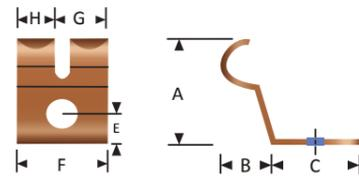

Figure 99 : Example of finger under 90 degrees
- 99** For special constructions the 2500 series show fingers mounted under an 90 degree angle. (Fig. 99)